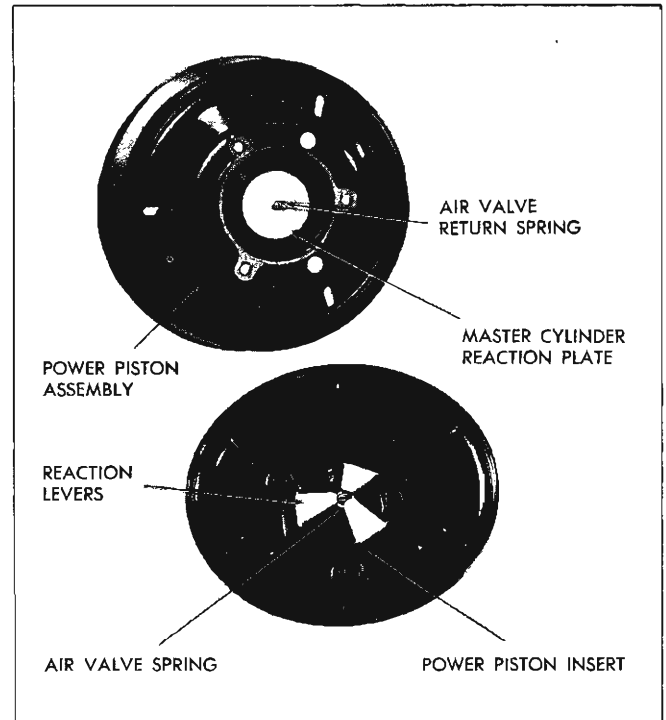

Fig. 5B-18 Assembling Power Piston
15. Place the rear housing and lower piston assembly into front housing (Fig. 5B-19). Line up the scribe mark on the top of the housing so that when the housing is rotated into the locked position, the scribe mark will be in line with the scribe mark on the front housing.